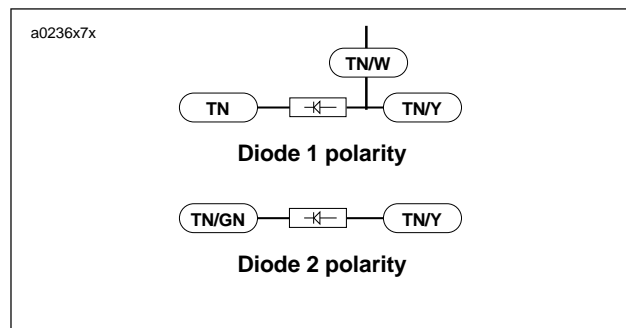

Figure 7-41. Diode Polarity
2. Check diode polarity as shown in Figure 7-41.